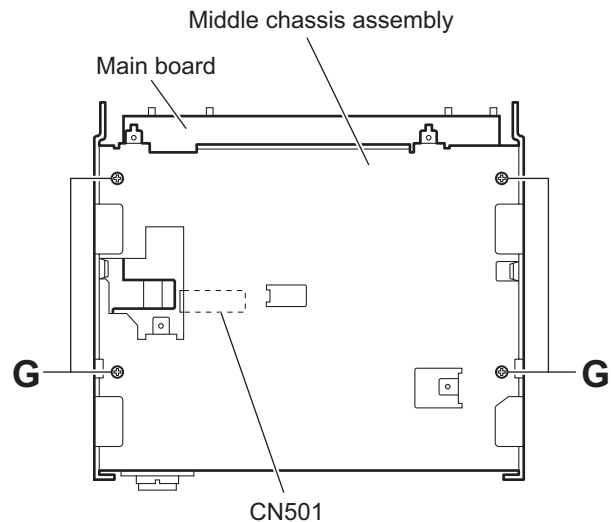

Fig.8
3.1.7 Removing the middle chassis assembly (See Fig.8)